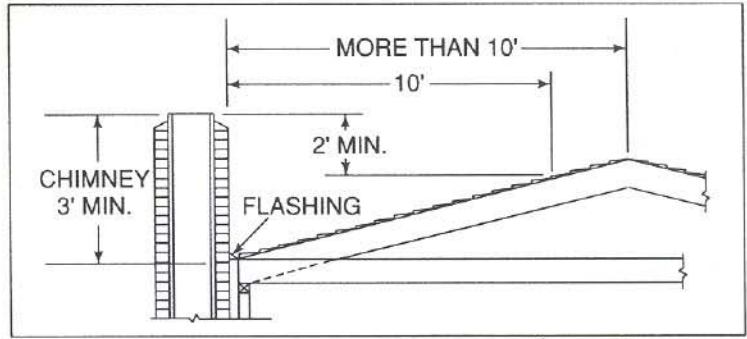

Figure 16
2. If the horizontal distance from the side of the chimney to the peak of the roof is more than 10 feet, a chimney height reference point is established on the surface of the roof a distance of 10 feet from the side of the chimney in a horizontal plane. The top of the chimney must be at least 2 feet above this reference point, but never less than 3 feet in height above the highest point where it passes through the roof. See Figure 16 (page 11).